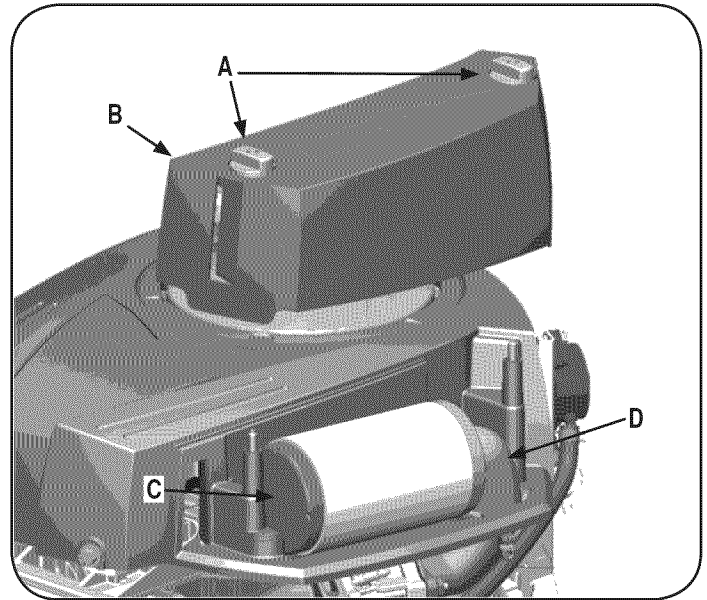

Figure 13
1. Remove the fasteners (A) and the air filter cover (B). See Figure 13.
2. To remove the filter (C), lift the end of the filter and then pull the filter off the intake (D).